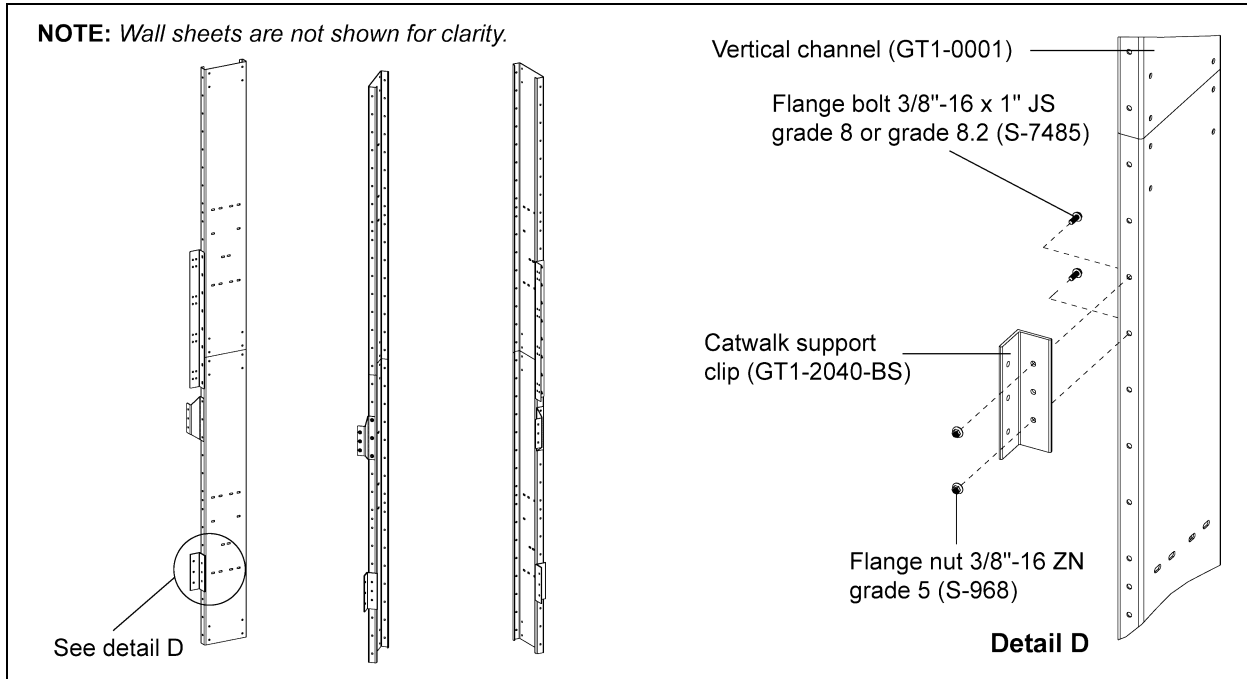
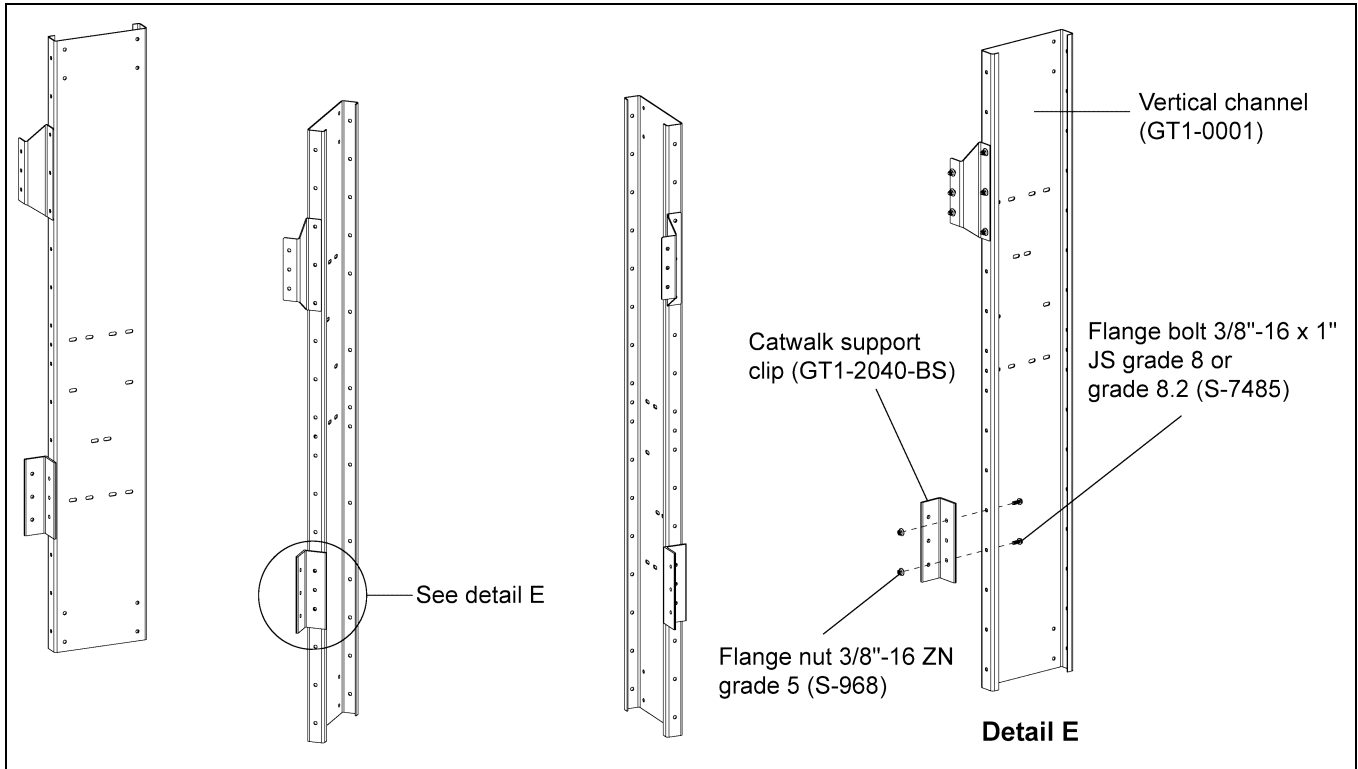

Figure 6G Offset Catwalk Support Clip Installation
Figure 6I Roof Hatch Catwalk Support Clip Installation
1. Install catwalk support clips (GT1-2040-BS) to vertical channels (GT1-0001). Support clip can be installed on each vertical channel as the wall sheets are installed using 3/8"-16 x 1" JS grade 8 or grade 8.2 bolts (S-7485) and 3/8"-16 ZN grade 5 nuts (S-968). (See Figure 6G below and Figure 6I on Page 50.)